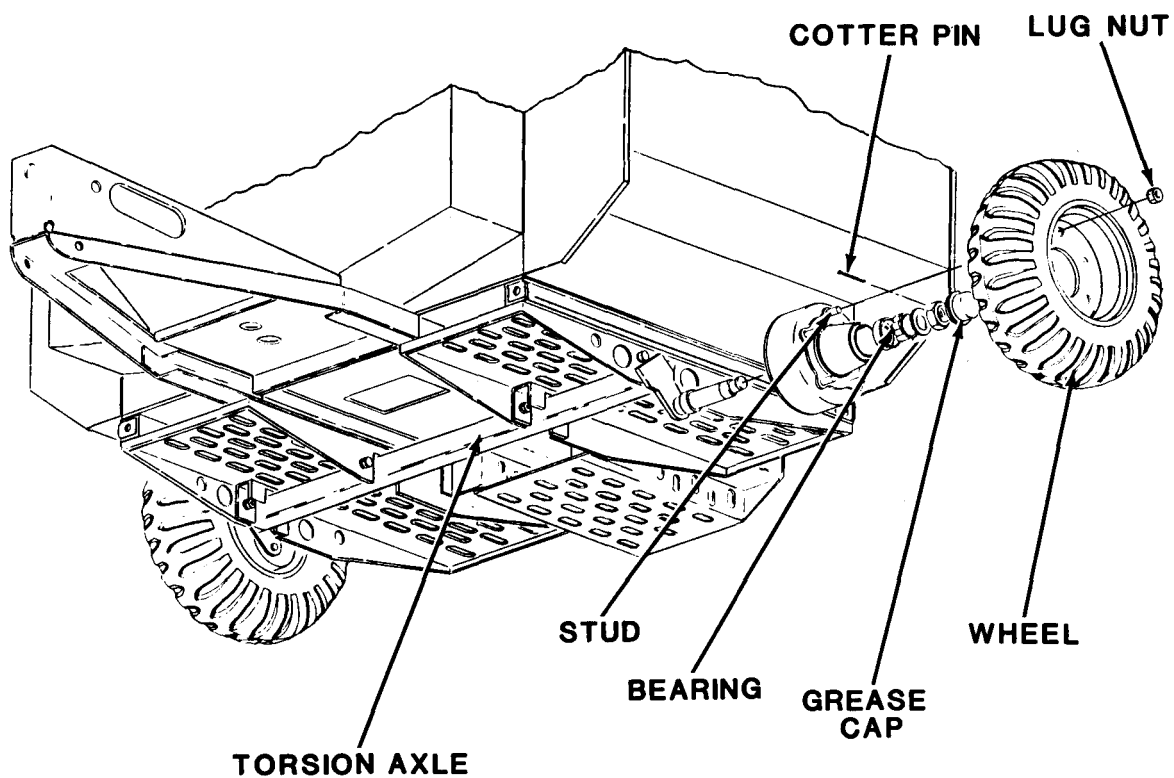

Figure 4-56. Torsion Axle Assembly and Wheel Assembly
(7) Secure bellcrank mounting bracket (36) with straight pin (26) and cotter pin (25).
(8) Secure clevis (21) to bellcrank with straight pin (23) and cotter pin (22).
(9) Screw jamnuts (18, 19) on brake rod (20). Screw clevis (12) on one end of brake rod and clevis (21) on other end.
(10) Attach clevis (21) to cable equalizing bar (12) with straight pin (10) and cotter pin (9).
(11) Screw jamnuts (16) and clevis (15) on ends of brake cables (17).
(12) Secure clevis (15) to cable equalizing bar with straight pins (14) and cotter pins (13).
(13) Secure brake cable to generator set frame with retaining straps (7), lockwashers (6), capscrews (5), washers (4), and nuts (3). Torque to 50-70 inch pounds (5.6-7.9 Nm).
(14) Secure brake cable to cable mounting brackets (8) with remaining retaining straps, lockwashers, capscrews, washers, and nuts. Torque to 50-70 inch pounds (5.6-7.9 Nm).
(15) Secure end of brake cables to remote control levers on brake with straight pins (2) and cotter pins (1).
(16) Adjust handbrake as necessary (paragraph 4-90b).
**4-91. TORSION AXLE ASSEMBLY.** Maintenance of the torsion axle assembly (figure 4-56) is limited to inspection.
**4-92. WHEEL ASSEMBLY.** Maintenance of the wheel assembly is limited to replacement (figure 4-56).